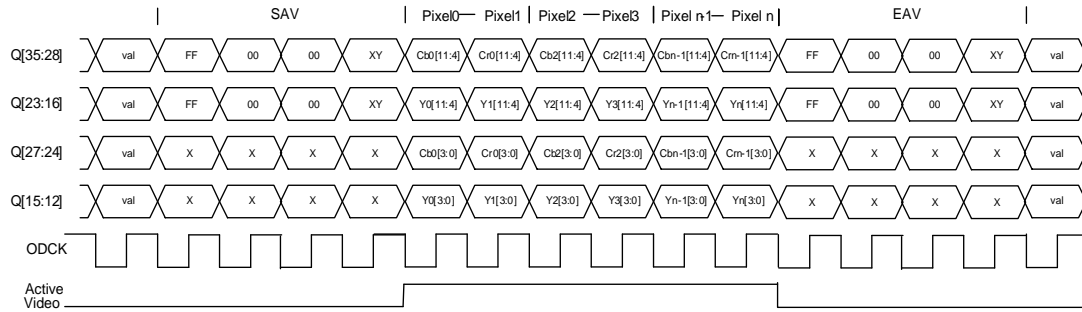
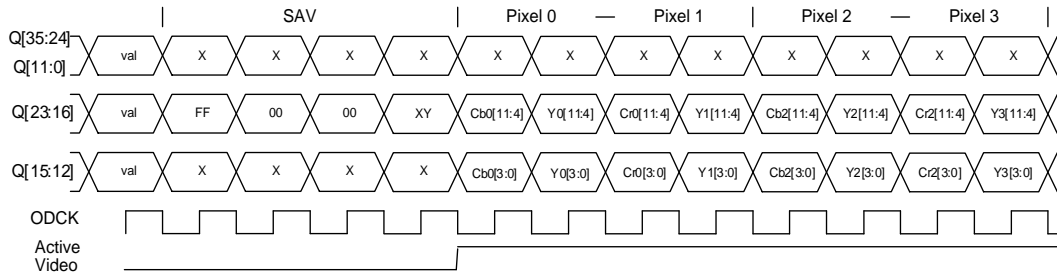

Figure 8.7. YC 4:2:2 Embedded Sync Timing Diagram
Figure 8.9. YC Mux 4:2:2 Embedded Sync Encoding Timing Diagram
The YC 4:2:2 embedded sync format is identical to the previous format (YC 4:2:2), except that the syncs are embedded and not separate. Pixel data can be 24-bit, 20-bit or 16-bit. DE is always output. Figure 8.7 on page 52 shows the Start of Active Video (SAV) preamble, the End of Active Video” (EAV) suffix, and shows timings with OCLKDIV = 0 and OCKINV = 1.
This mode is similar to that shown in Figure 8.7 on page 53, but with embedded syncs. It is similar to YC 4:2:2 with embedded syncs, but also multiplexes the luminance (Y) and chrominance (Cb and Cr) onto the same pins on alternating pixel clock cycles. Normally this mode is used only for 480i, 480p, 576i and 576p modes. Output clock rate is half the pixel clock rate on the link. SAV code is shown before rise of DE. EAV follows the falling edge of DE. See the ITU-R BT.656 Specification. 480p, 54-MHz output can be achieved if the input differential clock is 54 MHz. Figure 8.9 on the next page shows OCLKDIV = 0 and OCKINV = 1.